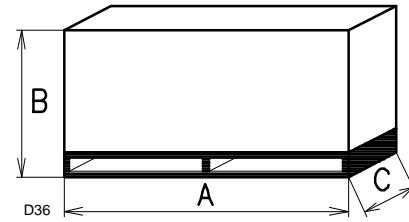

Fig. 1
- The packaging of the burner (Fig. 1) rests on a wooden platform that is particularly suitable for lift trucks. The overall dimensions of the packaging are shown in the Tab. D.